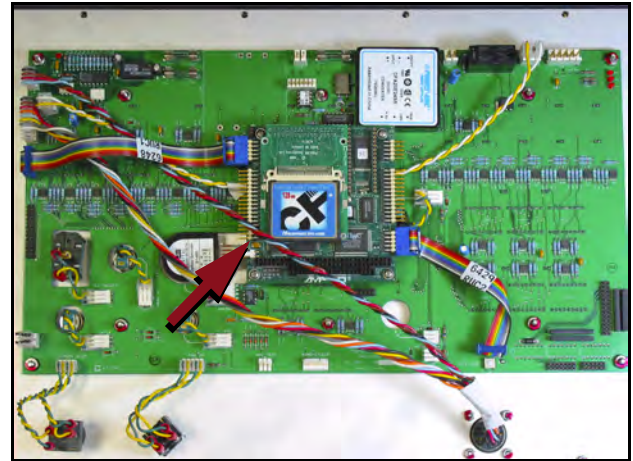

Fig. D-1: Location of the CF card on the underside of the controller panel (lacing cord removed).
4. Carefully turn the controller panel upside down and locate the CF card in the centre of the panel. (See Figure D-1.)